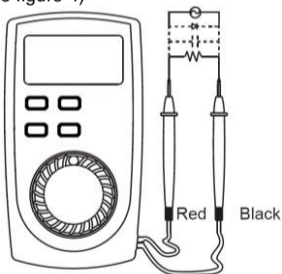

Figure 4
**C. Measuring Resistance** (see figure 4)
#### D. Frequency and Duty Cycle Measurement (see figure 4)
#### E. Measuring Diodes & Continuity (see figure 4)
### F. Capacitance Measurement (see figure 4)